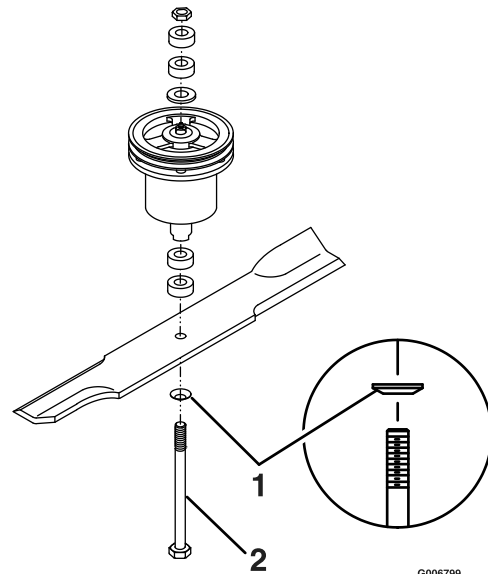

Figure 8
4. Re-install the blades (if they were removed) and torque blade bolts to 75-80 ft-lb (102-109 N-m). Be sure the spring disc washer is installed toward the bolt head (see Figure 8).